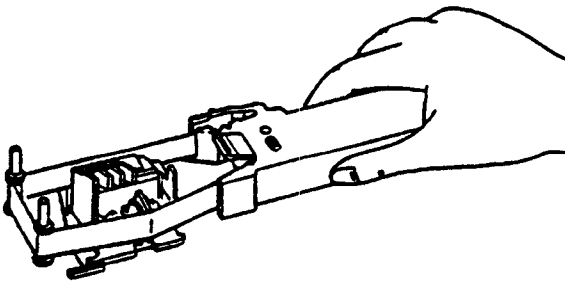

Figure 6.4
- (6) Move that ribbon cassette back by approx. 10 mm toward the guide pins. Be sure to install the ribbon to the guide roller by dropping the slackened ribbon on the roller section so as to cover the front and rear of the printer head. (Figure 6.4)